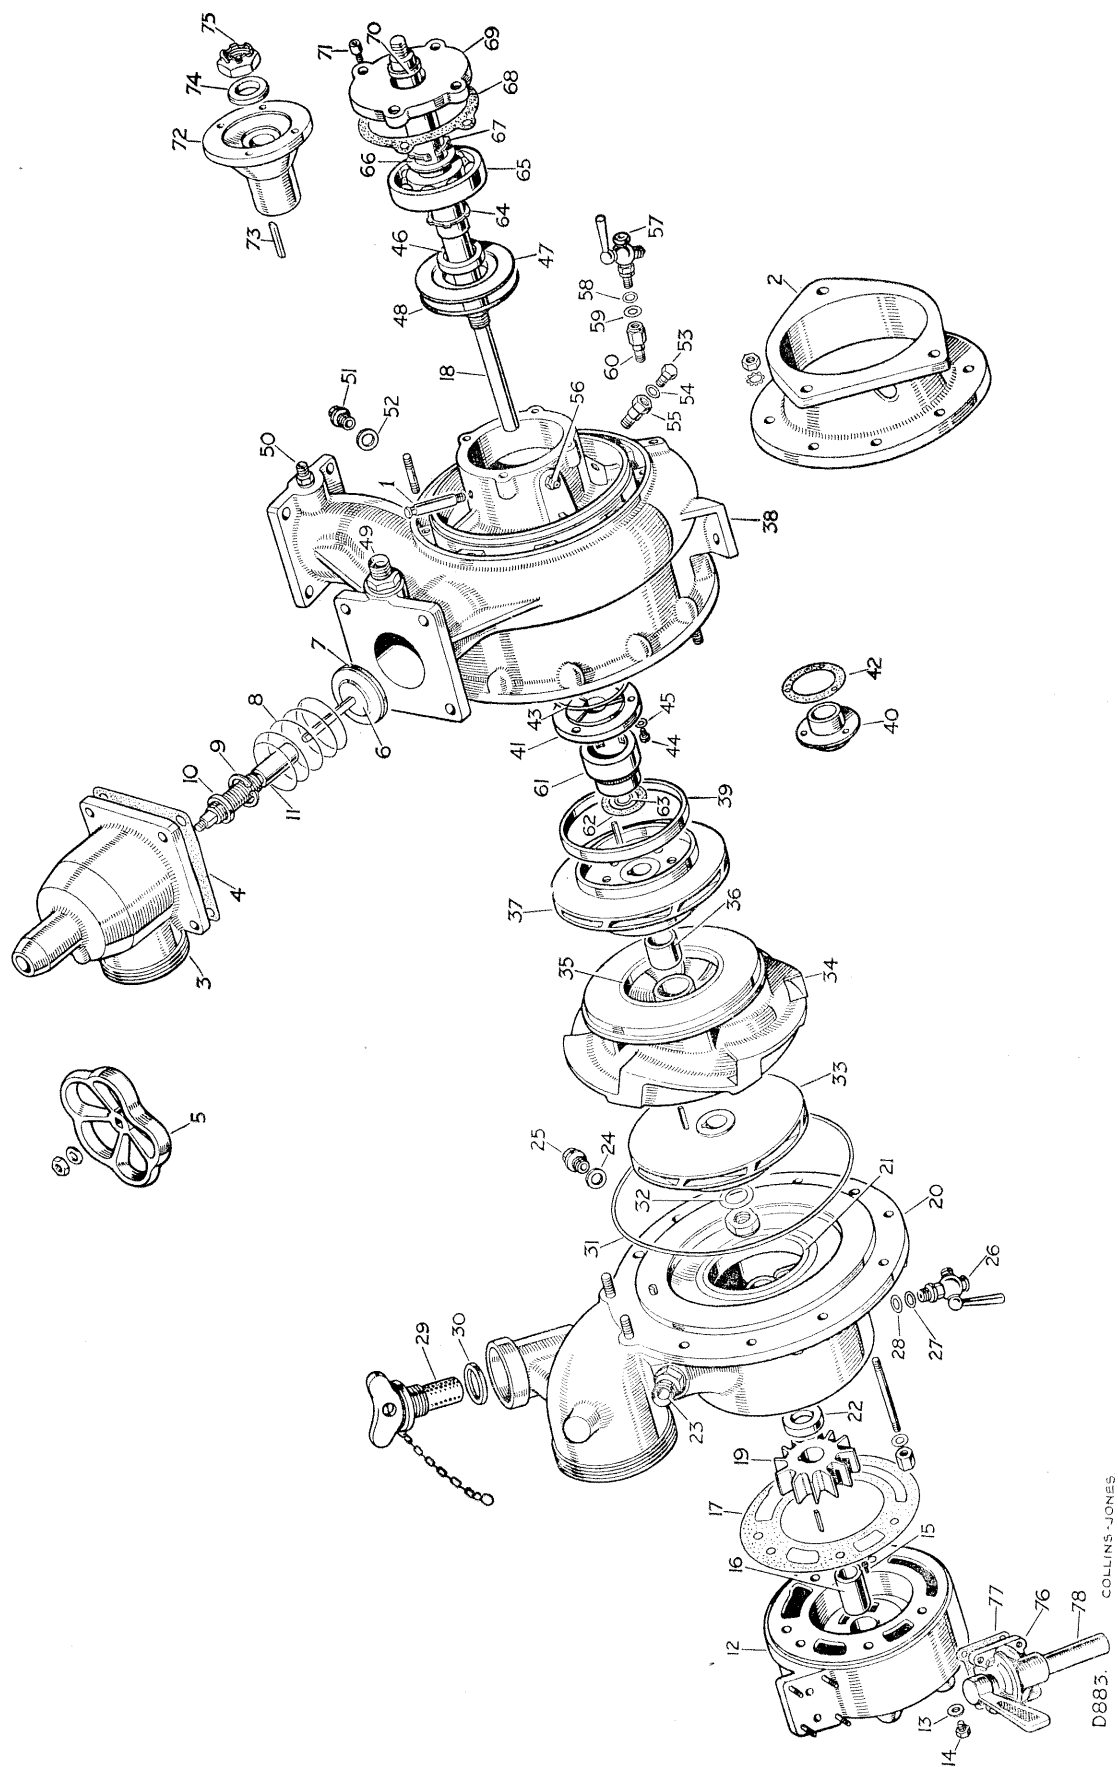

Fig. T-79—Exploded view of pump
Key to Fig. T-79
**Pump, to dismantle (see Fig. T-79)****Operation T/148**
1. Unscrew the lubricating pipes (1) and oil drain plug and extension (53, 55). Drain off oil. Remove the nuts and washers securing mounting ring (2) and withdraw the ring.
2. Remove the delivery valve securing bolts and withdraw the valve assemblies (3). Take out the spindle and seal assembly (6) and (7) and spring (8). A peg spanner will be required to unscrew the lower plate of the spindle and seal assembly if a new disc type rubber seal (7) is required.
3. The discharge valves may be dismantled completely by unscrewing the nuts securing control wheel (5), withdrawing the wheels, pressing the spindle body (11) downwards and extracting the body. Circlip (9) and spindle seal (10) may now be removed from the discharge valve casting.
4. Unscrew the cap nuts and gently tap the priming pump cover (12) off with a hide-faced hammer. Carefully remove the gasket (17). If necessary remove the grub screw (15) and extract the bush (16).
5. Slide the priming pump impeller (19) from the shaft (18) and take out the impeller key.
6. Remove the cap nuts and withdraw the suction casing (20) with sealing 'O' ring. If necessary withdraw the shaft seal (22).
5. The fibre washer and 'O' ring seal (see Fig. T-79) must be replaced if any sign of deterioration exists.